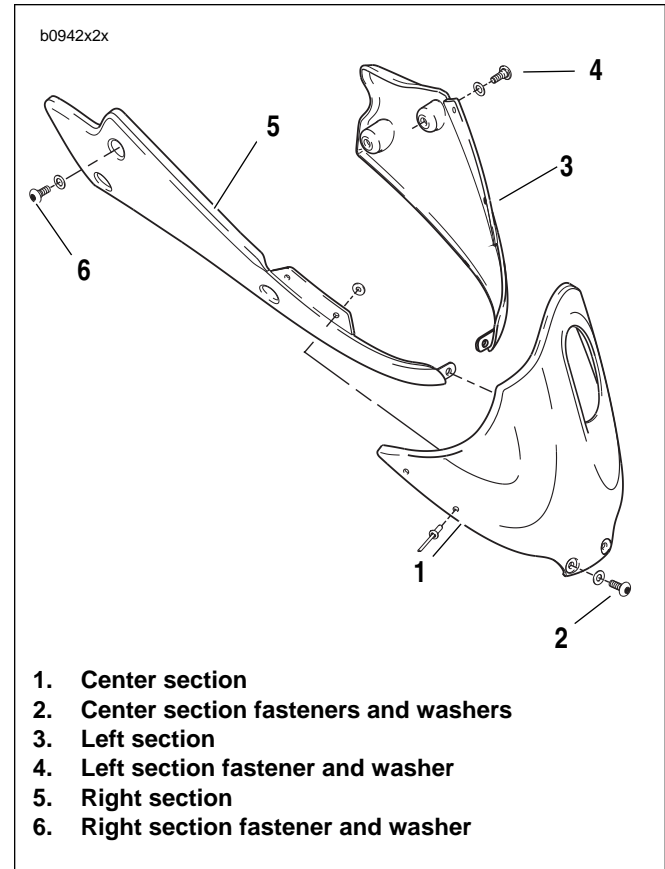

Figure 2-120. Chin Fairing Assembly
3. See Figure 2-120. Remove center section fasteners and washers (2).
4. Remove left section fasteners and washers (4).
5. Remove right section fasteners and washers (6).
1. See Figure 2-120. Position right section (5) and install with right side fasteners and washers (6).
2. Align left section (3) and install with left side fasteners and washers (4).
4. Align center section (1) and install with center section fasteners and washers (2). Use LOCTITE 272 (red) on all fasteners tightening to 36-48 **in-lbs** (4-5 Nm).